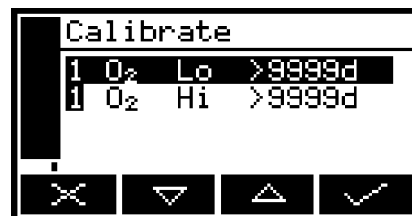

Figure 73 – The calibrate screen
- + If the auto validation/calibration option is installed, the gas control relays (Section 5.2.5) will select the correct gas once the manual calibration screen is shown (Figure 73). Sample gas will be reselected once the screen is exited.
Note that the "9999d" field of the screen shown in Figure 73 will identify the period of time that has elapsed since the last calibration, and can be in any of the following forms: